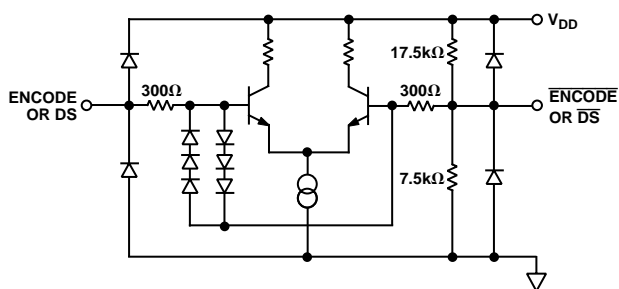

Figure 5. Equivalent ENCODE and Data Select Input Circuit
³t_v and t_{pD} are measured from the threshold crossing of the ENCODE input to valid TTL levels of the digital outputs. The output ac load during test is 5 pF (Refer to equivalent circuits Figures 5 and 6).
ENCODE and Data Select (DS) can be driven differentially or single-ended. For single-ended operation, the complement inputs ($\overline{\text{ENCODE}}$, DS) are internally biased to $V_{\text{DD}}/3$ (~1.5 V) by a high impedance on-chip resistor divider (Figure 5), but they may be externally driven to establish an alternate threshold if desired. A 0.1 μF decoupling capacitor to ground is sufficient to maintain a threshold appropriate for TTL or CMOS logic.
Note the 6-diode clock input protection circuitry in Figure 5. This limits the differential input voltage to $\sim \pm 2.1$ V. When the diodes turn on, current is limited by the $300\ \Omega$ series resistor. Exceeding 2.1 V across the differential inputs will have no impact on the performance of the converter, but be aware of the clock signal distortion that may be produced by the nonlinear impedance at the converter.